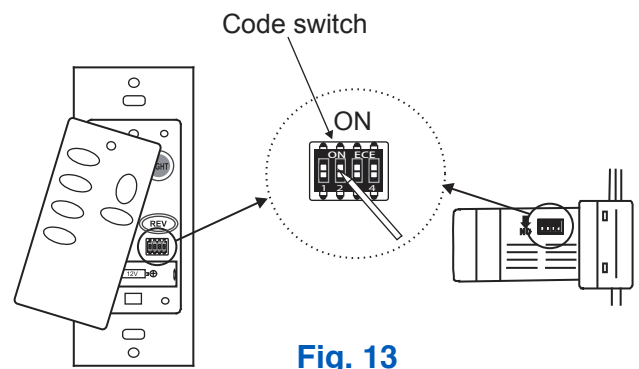

Fig. 13
**NOTE:** The frequencies on your receiver and wall transmitter have been preset at the factory. Before installing the receiver, make sure the dip switches on the receiver and wall transmitter are set to the same frequency. (Fig. 13)